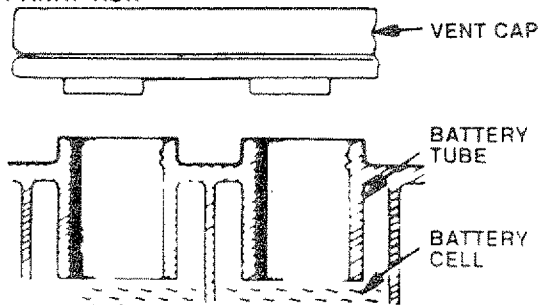

FIGURE 1
- Fill each cell with battery acid. Add the acid until it reaches the bottom of the vent wells (Fig. 1). NOTE: DO NOT OVERFILL. OVERFILLING WILL RESULT IN DAMAGE TO TRACTOR.